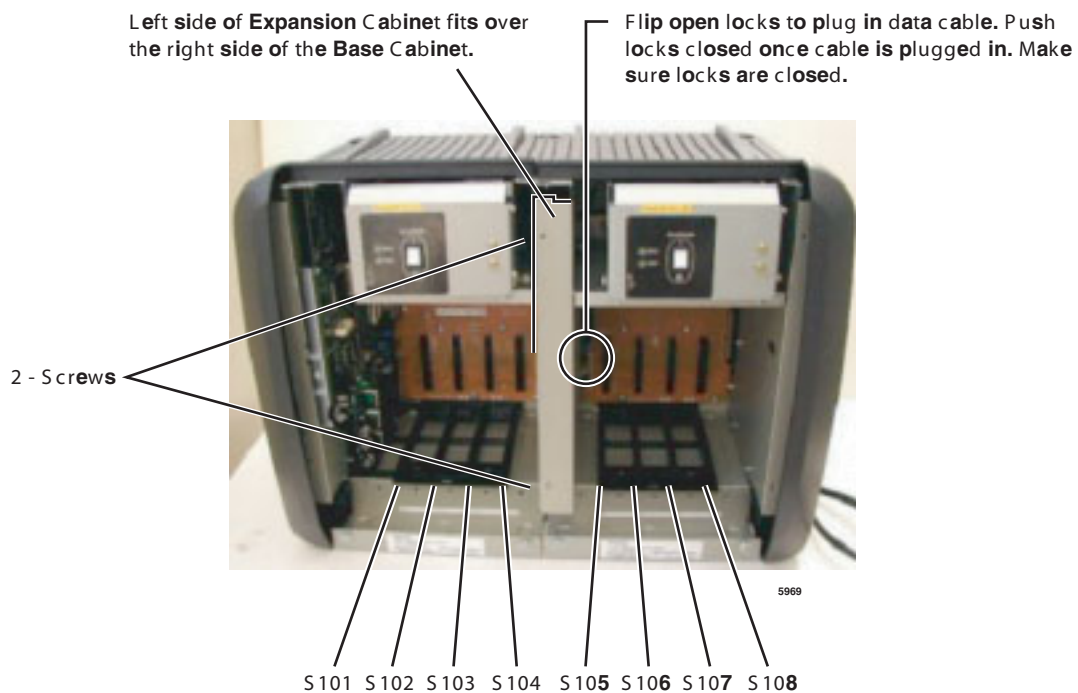

Figure 2-7 Base and Expansion Cabinet Interior
10. Finish by securing the Expansion Cabinet to the Base cabinet with the two screws in front of the cabinets where they join together. The expansion cabinet left-side flange fits over the Base cabinet right side flange (see Figure 2-7).